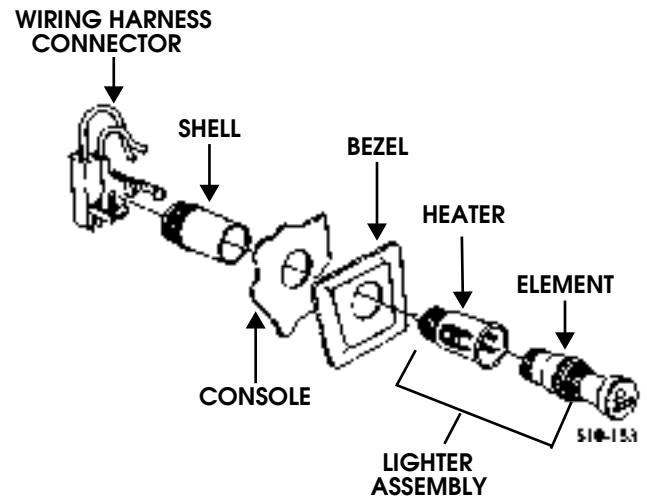

Figure 10-23: Cigarette Lighter Breakdown
3. Remove element from lighter assembly heater (Figure 10-23).
1. Install bezel and heater in console (Figure 10-23).